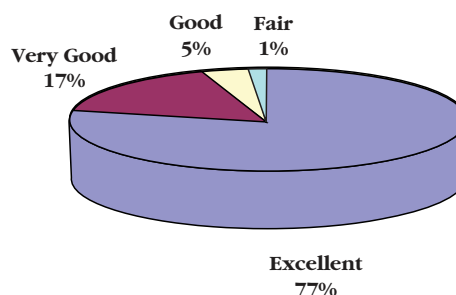

Figure 3
**Virtuoso Universal** has exhibited excellent resistance to fracture and chipping during the evaluation period. Seventeen of the 134 restorations exhibited moderate chipping and four of these required replacement. Many of the chipped restorations only needed to be smoothed; two were repaired with flowable composite (Figure 3).